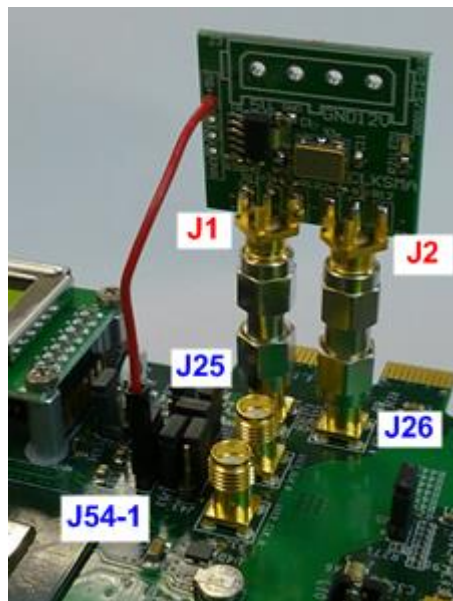

Figure 2-1 CLKSMA board connecting to AC701 board
2. Connect AB14-CLKSMA board to AC701 board. J1 and J2 which are SMA connector on AB14-CLKSMA board are connected to J25 and J26 which are SMA connector on AC701 board, as shown in Figure 2-1.
3. Connect power connector (Red cable) of AB14-CLKSMA board to pin 1 of J54 on AC701 board, as shown in Figure 2-1.